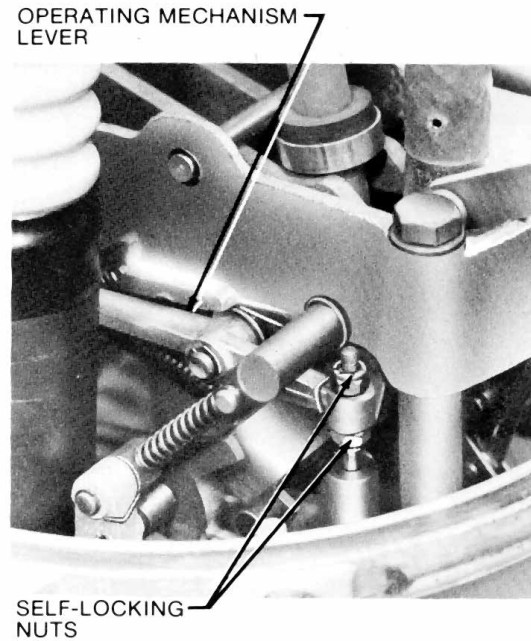

Figure 40. Adjustable lockout lever setting
- D. If tripping does not occur as described in Step C, adjust self-locking nuts shown in Figure 40 to achieve correct operation. Note that the mechanism cannot operate properly if the nuts are tight against the operating mechanism lever. Always back off either nut one-half turn before testing.